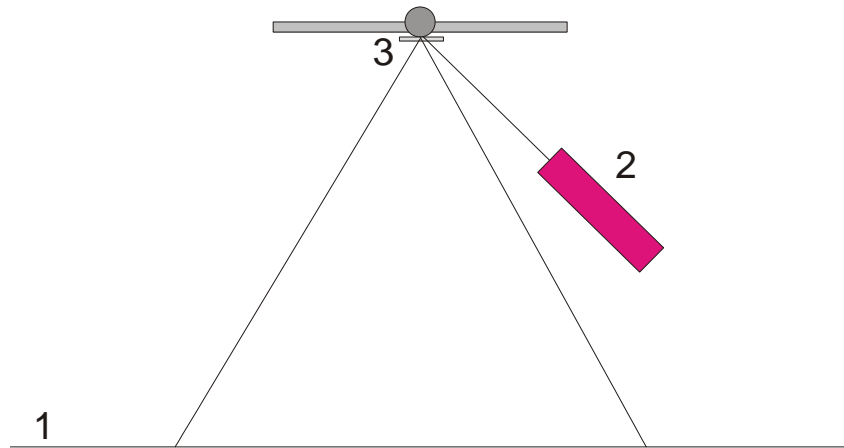

Fig. 5 Set-up of laser pointer for determining zero position (1 wall, 2 laser, 3 mirror)
- Place the torsion balance on a bench that cannot be shaken about 2 to 3 m from a flat wall and connect it to a computer (see Fig. 5).